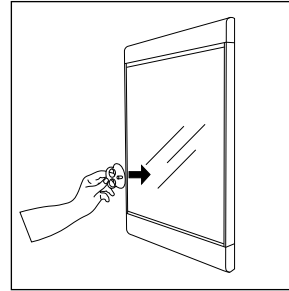

Fig. 1
1. Attach Suction Cup Tool (SCT) to face of Plastic Cover. Press center of Suction Cup to achieve a vacuum-type bond. (Fig. 1)